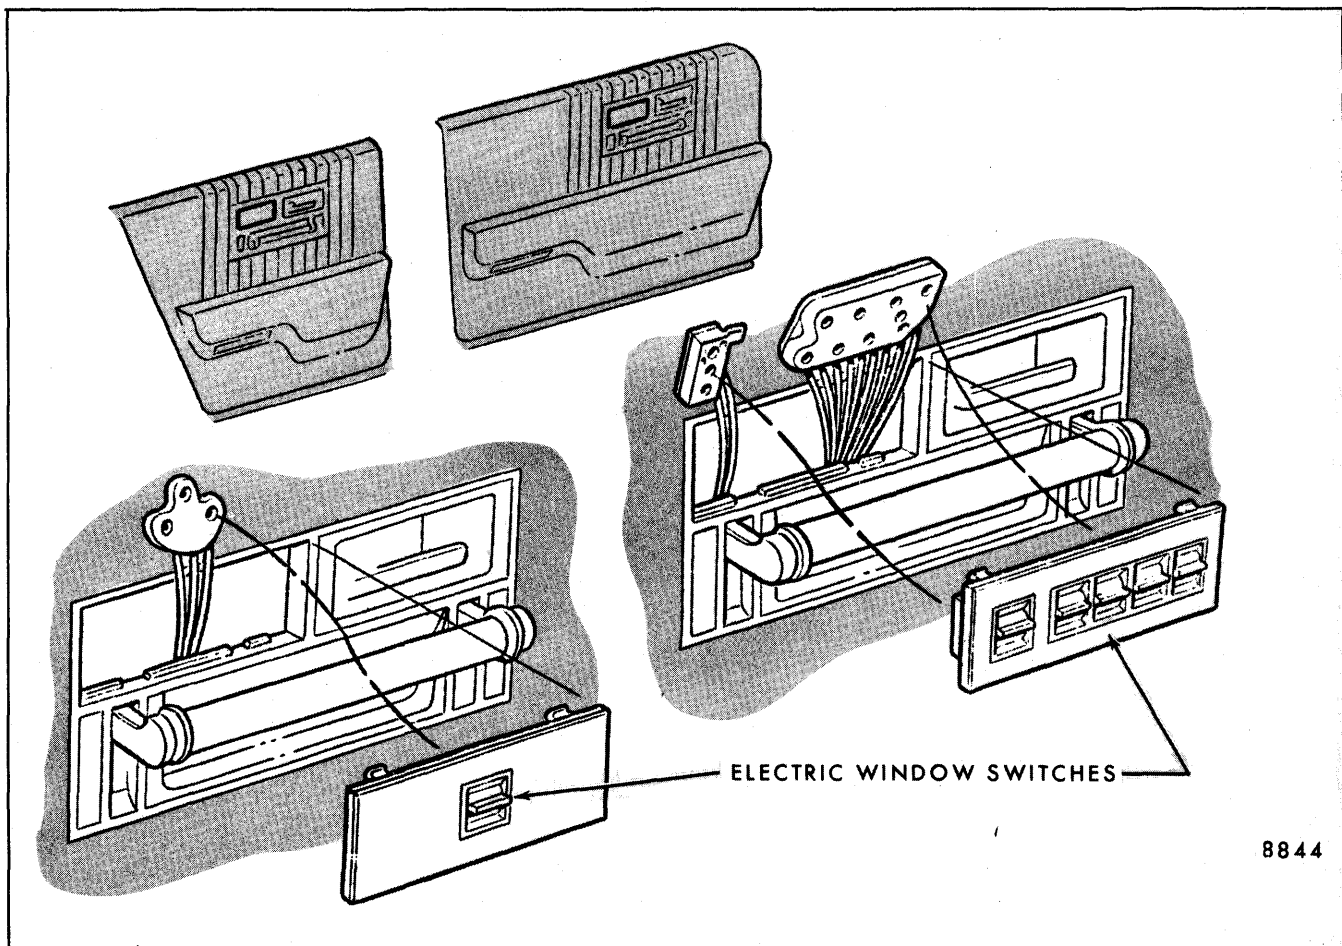
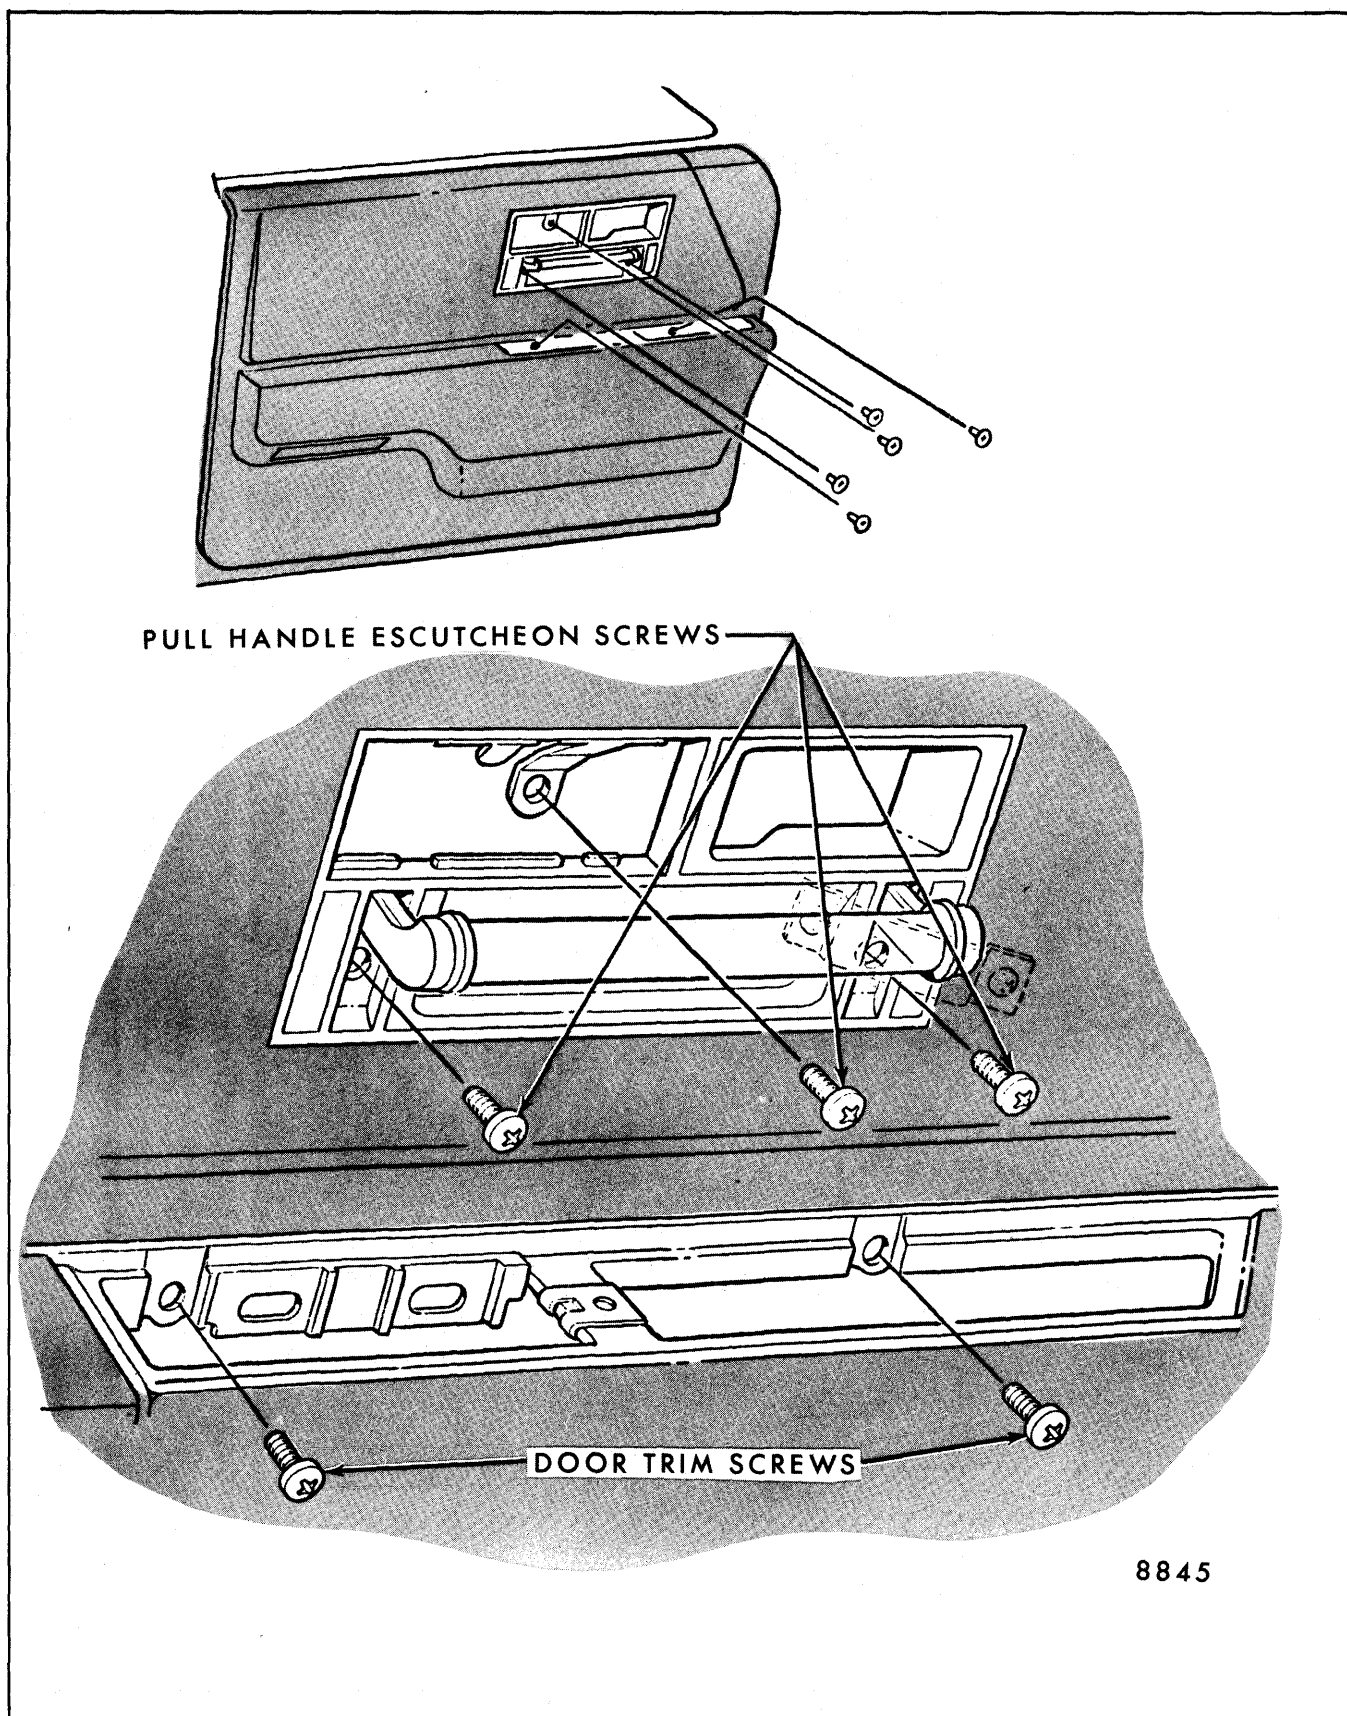

Fig. 5-1-Electric Window Control
Fig. 5-2-Door Pull Handle Assembly
2. Disconnect electric window terminal and block-out switch terminal (Fig. 5-1).
3. Remove one (1) escutcheon to door inner panel attaching screw.
4. Lift door pull handle to out position and remove two (2) screws under handle at both ends (Fig. 5-2).